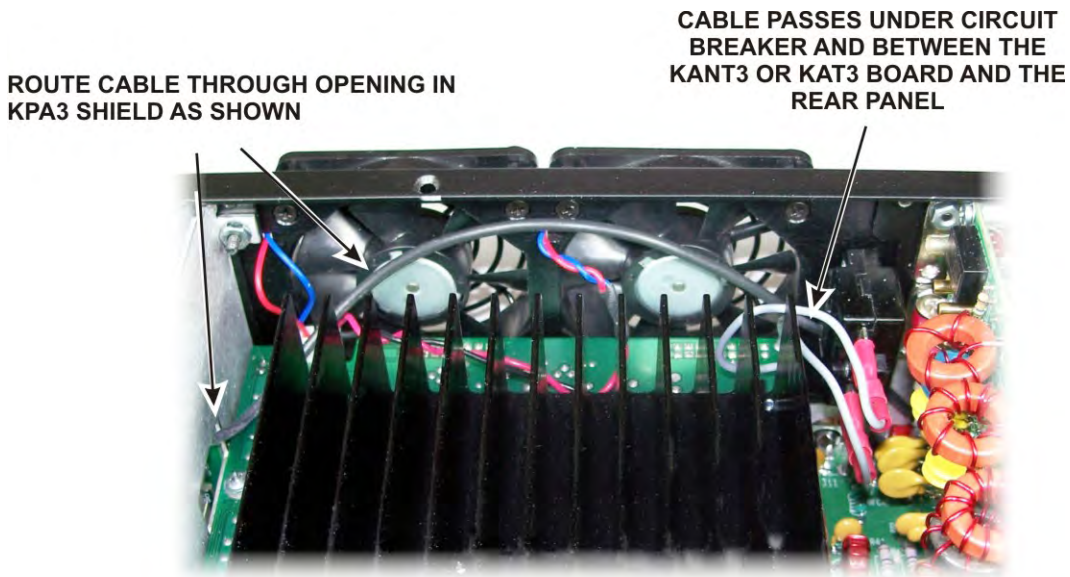

Figure 35. Routing TMP Cable to Rear Panel AUX RF Connector with KPA3 Installed.
- Thread the coaxial cable between the edge of the KANT3 or KAT3 board and the rear panel as shown. If you have the KPA3 option installed, push the cable under the circuit breaker on the fan panel at an upward angle so it crosses the fans above the KAT3 amplifier module circuit board and out through the hole in the KPA3 shield as shown in Figure 35.